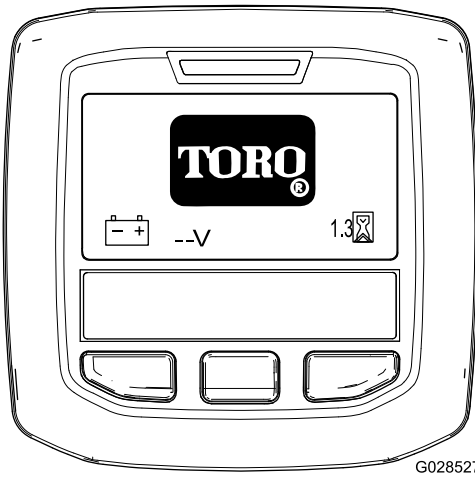

Figure 58
**Note:** The InfoCenter illuminates and displays the initialization screen (Figure 58).